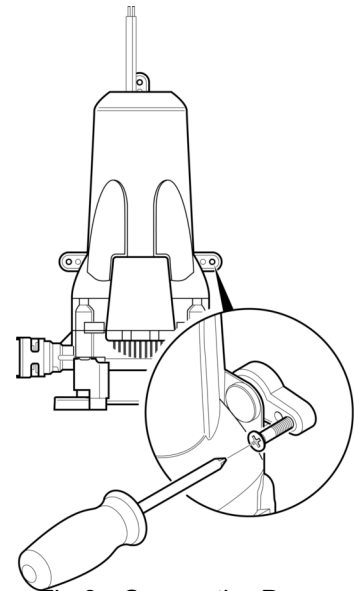

Fig 3 - Secure the Pump
| Fig. 3 | Securing the Pump | | |
- Step 4** Feet positions are adjustable to allow for retrofit. Use 3 stainless steel screws and washers (supplied with retail pump) to fasten pump to solid surface and support the pump securely. See Figure 3.